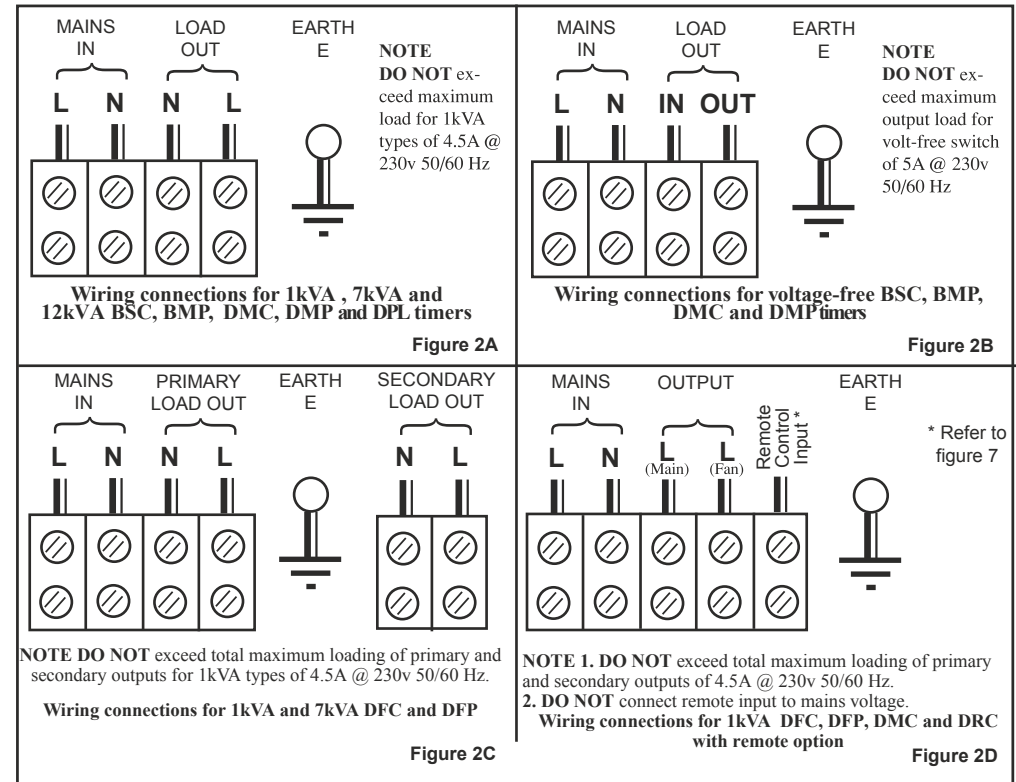

Figure 2 Input wiring connections
- v. Using a fused double pole switch for the mains input, wire the unit as shown in Figure 2. **IMPORTANT.** With 24V, VF (voltage-free) and 1kVA models use cable of cross sectional area not less than 1.0 mm² and fuse at 5A. With 7kVA rated models use cable of not less than 6.0 mm² and fuse as appropriate up to a maximum of 30A. For 12kVA rated models use cable of not less than 10 mm². The use of 20 mm conduit is recommended (use male thread adaptor with lock-ring e.g. Egatube type EMA/2). Alternatively fit a 20 mm nylon compression cable gland to provide strain relief.